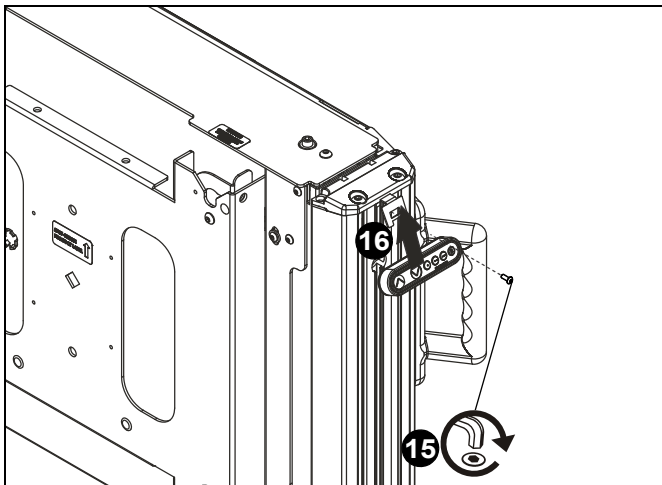

Figure 11
- 15. (XPD1U/XFD1U ONLY) Reinstall control pad bracket to side channel by reinstalling screw holding it to mount using 5/64" hex key (N). (See Figure 11)
- 16. (XPD1U/XFD1U ONLY) Reinstall control pad to control pad bracket. (See Figure 11)